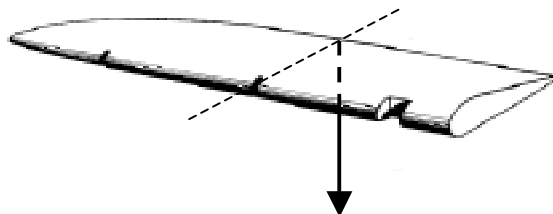

Figure 3 : Aileron balancing
• Aileron balancing (see figure 3)	160 g +/- 50 g - 0.35 lbs +/- 0.11 lbs